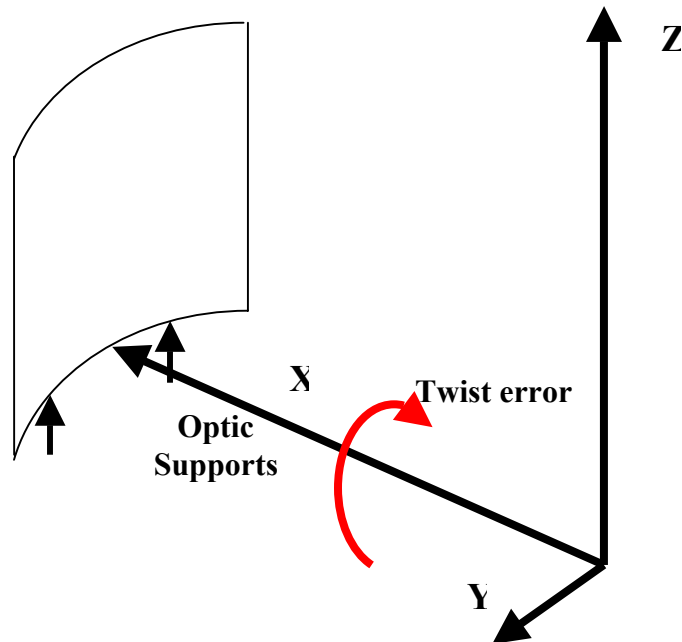

Figure 1 – Twist Error
- The optic rotates by 1 degree about a radius at the bottom of the optic, centered azimuthally. This is the X axis shown in Figure 1.